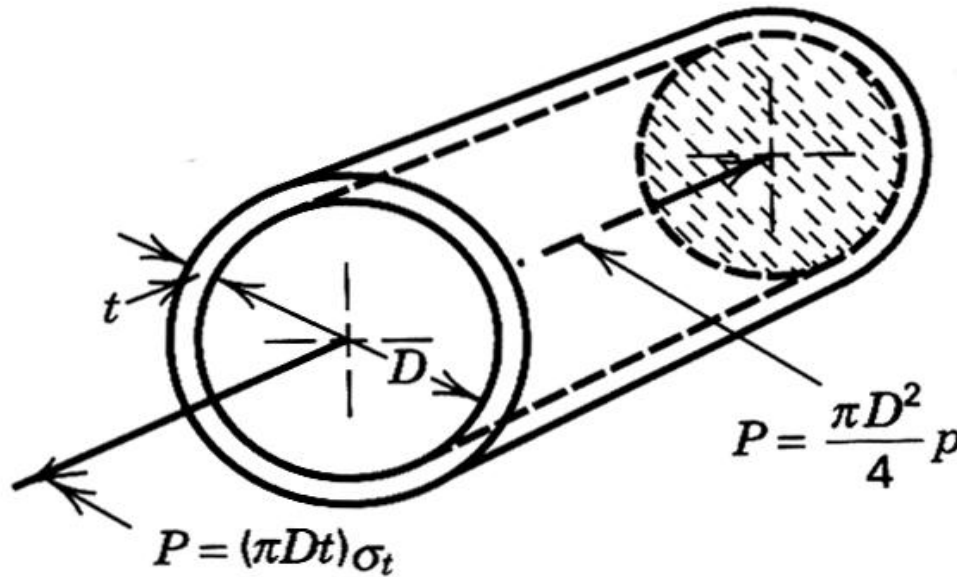

Figure 6-1c
- Fig. 6-1c shows a free-body diagram to account for cylindrical stresses in the longitudinal direction. The sum of forces acting along the axis of the cylinder is: